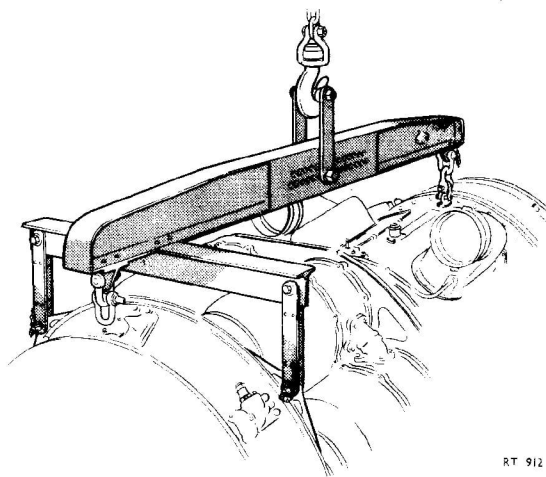

Fig. 1 E.c.u. sling
5. The e.c.u. handling sling is illustrated in fig.1. The slinging attachment is loosely bolted to the fore and aft beam, and alternative positions are provided, but the sling may not be suitable for installing the e.c.u. in the aircraft. The sling specified in the appropriate aircraft Air Publication should be used for installation purposes.